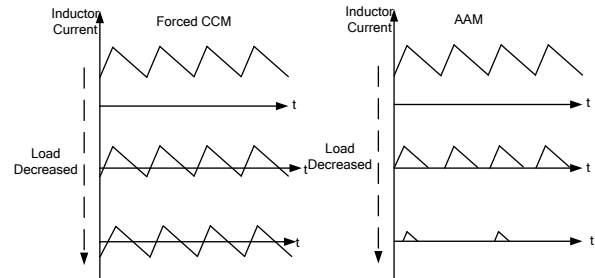

Figure 3: Forced CCM and AAM
Under normal-load conditions, the controller operates in full pulse-width modulation (PWM) mode (see Figure 3). At the beginning of each oscillator cycle, the top gate driver is enabled. The top gate turns on for a period determined by the duty cycle. When the top gate turns off, the bottom gate turns on after a dead time and remains on until the next clock cycle begins.
The MPQ2918 employs advanced asynchronous mode (AAM) functionality to optimize efficiency during light-load or no-load condition (see Figure 3). AAM is enabled when CCM/AAM is at a low level by connecting an appropriate resistor to SGND to ensure that the AAM voltage (V_{AAM}) is no less than 480mV. V_{AAM} can be calculated with Equation (1):